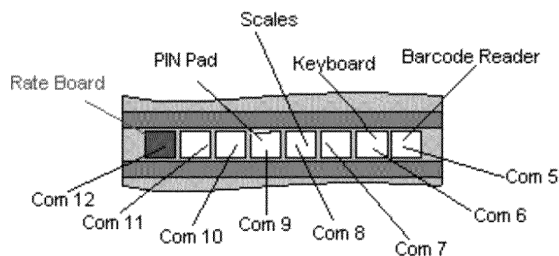

Figure 17
- 2) To connect the Segment 3 cable to the Counter Position, take the segment 3 cable and connect the RJ12 plug to **COM12** on the Specialix card at the rear of the base unit (See figure 17) Ensure that this plug 'clicks' home securely.
The keyboard has two connections - the mini-DIN connector is connected to the keyboard socket, and the RJ12 connector is connected to COM6 (2nd socket from the right of the Specialix Card, see figure 17).
The bar code reader has two connections - the mini-DIN connector is connected to the mouse port, and the RJ12 connector is connected to COM5 (1st socket from the right of the Specialix Card, see figure 17).
If present, these are connected to COM8 (4th socket from the right of the Specialix Card, see figure 17).
The PIN Pad has three connections. The RJ12 connector is connected to COM9 (5th socket from the right of the Specialix Card, see figure 17). The plug end of the 'Y' shaped power lead is connected to the daisy-chain PSU output, and the socket end connects to the mains lead trailing from the touchscreen monitor.
If present, a cable (the Segment 3 cable) will be connected to COM12 on the Specialix Card (see figure 17).